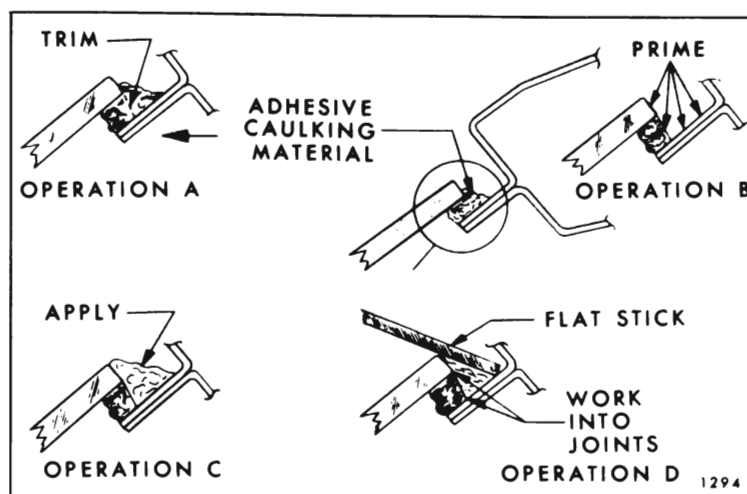

Fig. 9-2—Back Window Installation
7. After final adjustments have been made and glass is in proper position in opening, apply a piece of masking tape horizontally over each side edge of glass and rear quarter extension (Fig. 9-2), so that when glass is being installed, tape on glass can be aligned with tape on body and serve as a guide.
13. Install glass in body opening making certain that glass sets properly on spacers and does not have to be shifted after material contacts pinchweld flange. Align tape on glass with tape on body to guide window into opening. (See Fig. 9-2).